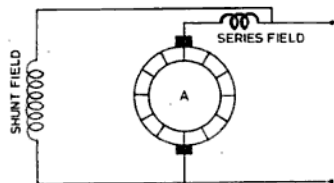
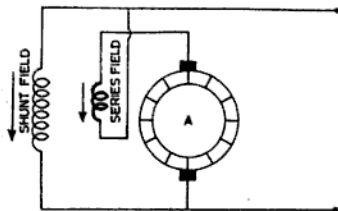

Fig. 7.25 Long-shunt compound generator
Fig. 7.26 Long-shunt commutative compound generator
- (ii) **Long Shunt Compound Generator** If the series winding is connected in series with the armature and then the shunt winding is put in parallel to the combination, as shown in Fig. 7.25 it is called a long shunt compound generator. In this case also, if the effect of both the field is additive, as shown in Fig. 7.26, it is called a long shunt commutative compound generator.